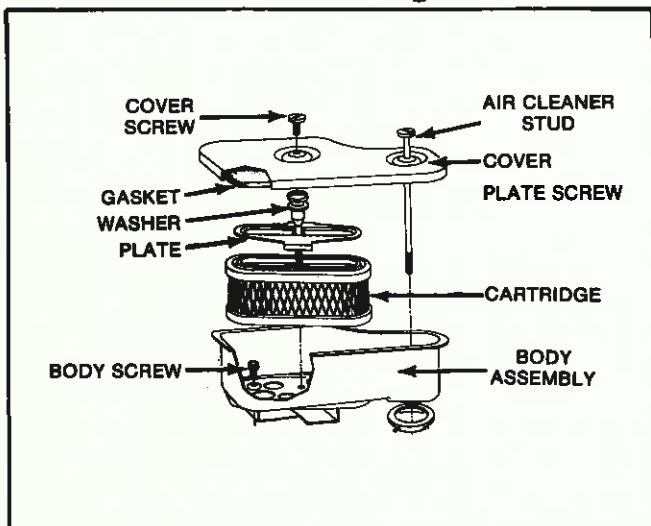

Fig. 6 — Cartridge Air Cleaner
5. Re-assemble air cleaner. Fig. 6.